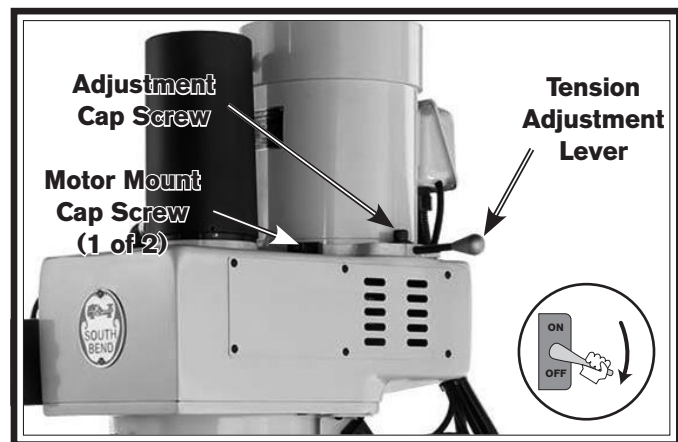

Figure 48. Belt tensioning controls.
2. Loosen two motor mount cap screws, one on each side of motor (see **Figure 48**).